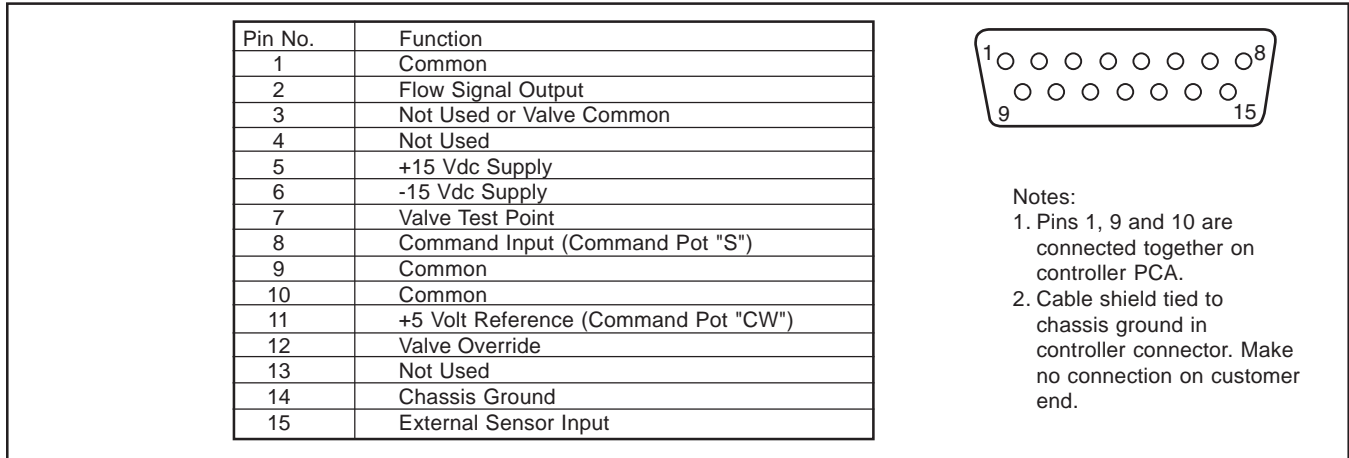
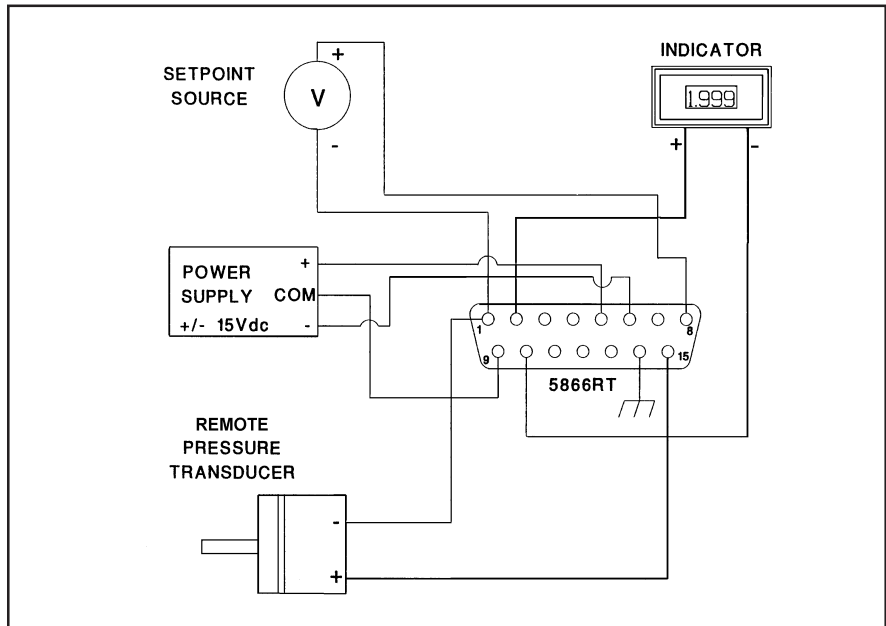

Figure 2-1 Connector Pin Arrangement
Figure 2-2 D-Connector to Card Edge Adapter
To insure proper operation, the Model 5866RT must be connected per Figure 2-1. As a minimum, the following connections must be made for new installations. The minimum electrical connections are shown in Figure 2-2 and in the list below.
1. Connect the pressure controller to a ± 15 Vdc power supply, command Voltage source and connect an output signal readout device (a 4-1/2 digit voltmeter is recommended) to Terminals 2 and 10 (refer to Figure 2-1).